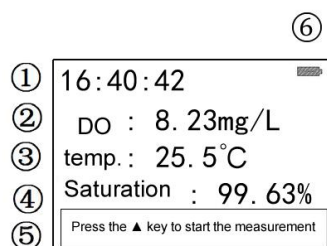

Figure 6
1.Press and hold the "Power Switch" button for 2 seconds to turn on the device and enter the measurement interface. The description of the display screen on the measurement interface is as follows (as shown in Figure 6):
- ① ☐ Current system time;
- ② ☐ Dissolved oxygen value;
- ③ ☐ Temperature value;
- ④ ☐ S: saturation
- ⑤ ☐ Status indicator bar: It provides status prompts according to the measurement situation.
- ⑥ ☐ Battery level: The power level of battery. If the battery is low, please charge it in time.